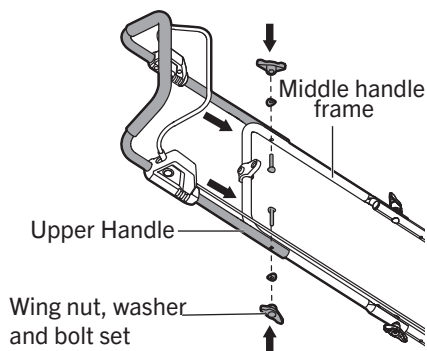

FIG. 5
1. Lift the upper handle frame and align the two holes in the upper handle with the holes in the middle handle frame as shown in Fig.5